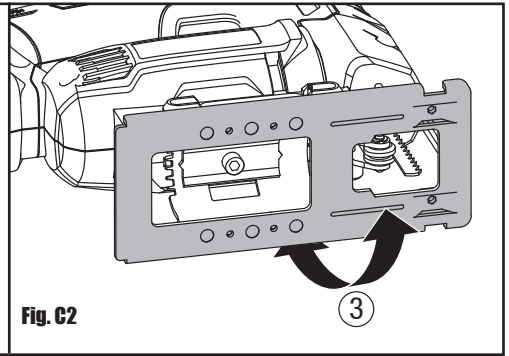

Fig. C2
- 3) Rotate the base plate to a required angle (0°, 15°, 30°, 45°). For other miter angles, rotate to your desired angle (use a protractor scale). (See Fig. C2)